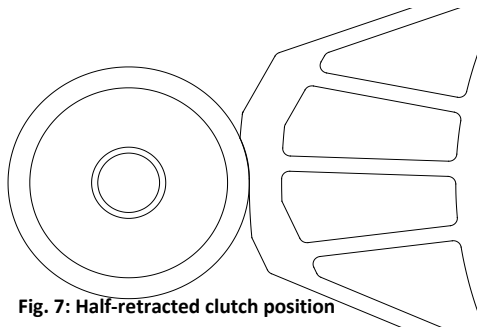

**Fig. 6: Fully retracted clutch position**
- Adjust the cam until the nylon roller is on the outer most cam surface as shown in Fig. 6: Fully retracted clutch position